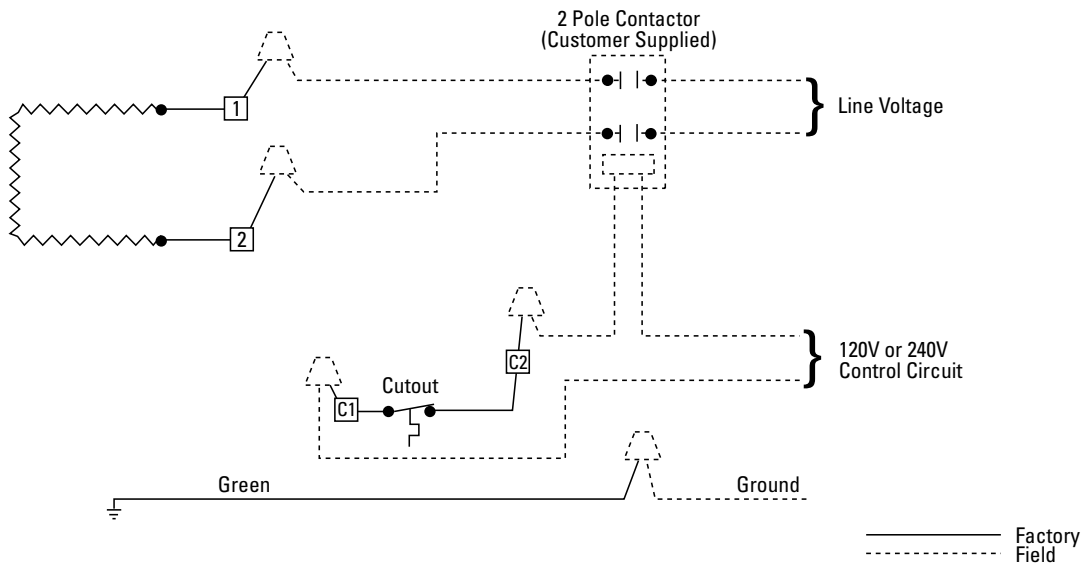

Figure 3 **Single Phase (All TPR Heaters)**
2. Wire heater with manual reset thermal cutout as shown in Figures 3 thru 7.